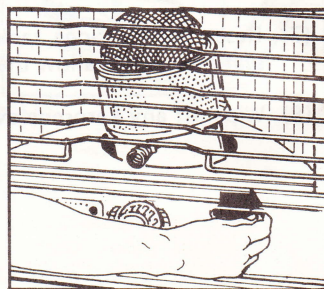

Fig. 8
- (3) Move ignition lever gently to right till it stops and hold until wick is lit in about 2 – 5 seconds (Fig. 8). Return the ignition lever gently after ignition. In case ignition is not obtained and white smoke goes up near ignition heater, set the ignition lever again.